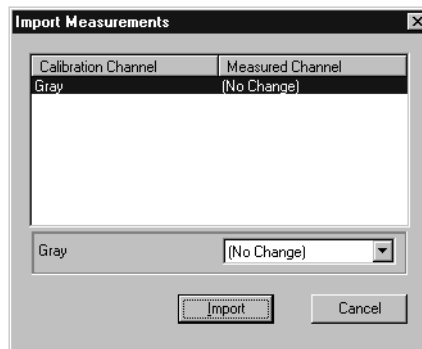

Figure 11.6 Import Measurements dialog box
- Import** To import the data from a file rather than typing numbers into the boxes, click the **Import** button. The RIP displays the Import Measurements dialog box, shown in Figure 11.6.